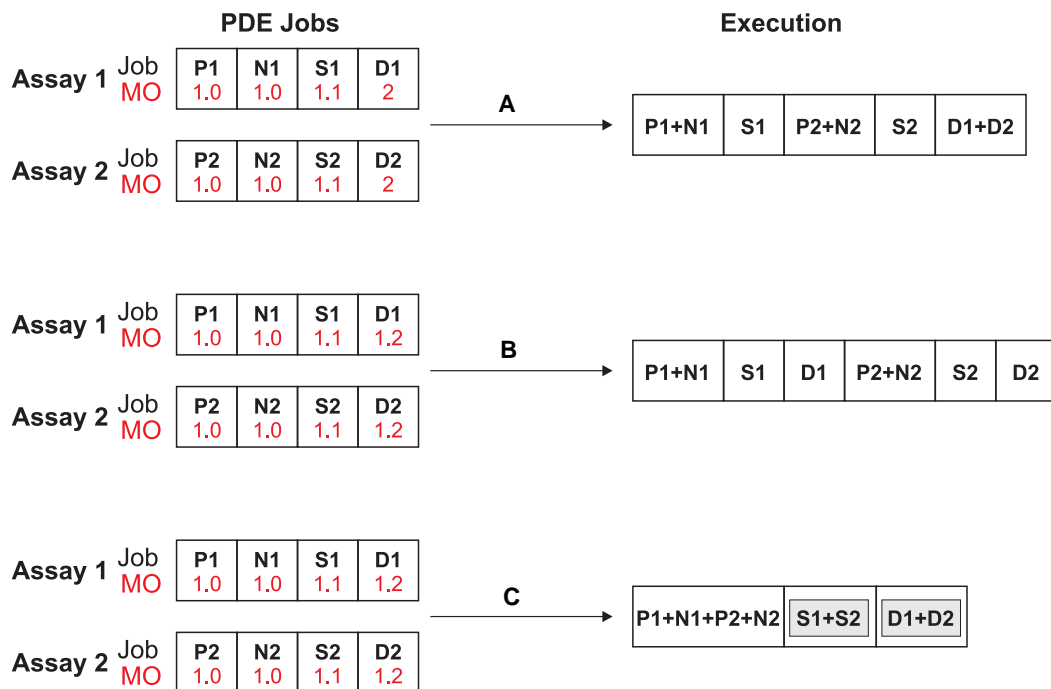

Fig. 7-16 Merge order definitions with point separation: Examples
- B** P2/N2 are allocated to tips 1 and 2, P1/N1 to tips 3 and 4 (compare with Fig. 7-16, 7-16, example C)